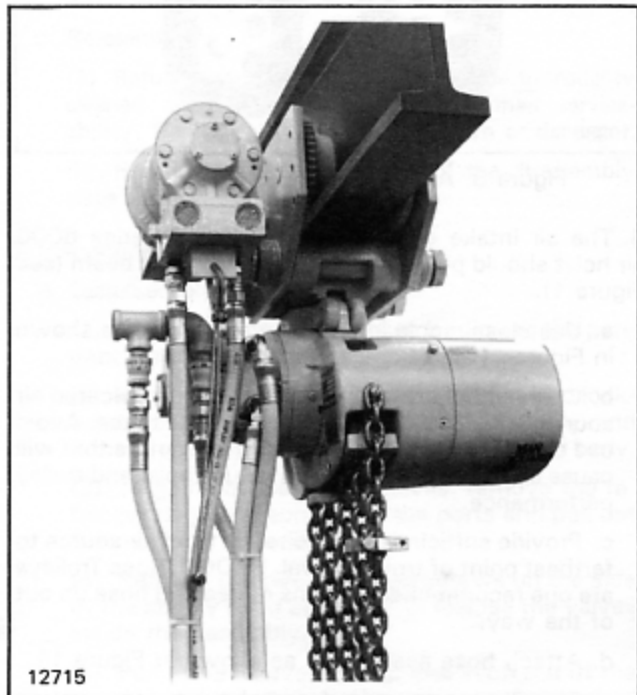

Figure 1. Standard Trolley and Hoist.
A standard 3 ton Air Motor Driven Trolley is illustrated in Figure 1. The pendant and hose assembly is shipped loose and should be attached after trolley and hoist installation.
3. The air intake elbow on the BUDGIT Series 6000 air hoist should point away from the runway beam (see Figure 1).
a. Use close nipple in elbow to attach tee as shown in Figures 1 and 9.